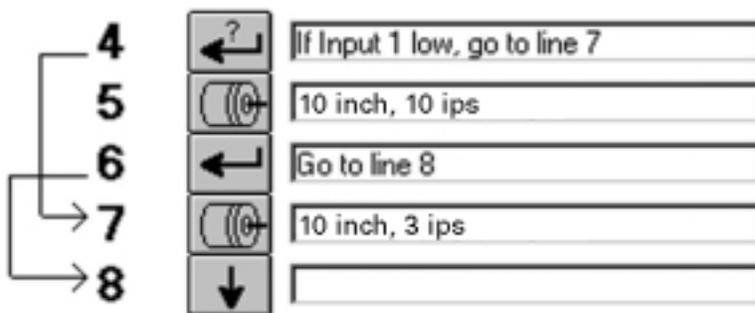

Figure 68
2. It allows a parameter to be changed such as distance or speed based on an input. Consider the example above. How will the cut-off saw know how fast to go when the switch is set for "Aluminum" or "Steel?" The same switch that controls the movement of the saw could be wired to the MSC. This time, the program is written as shown in Figure 68.